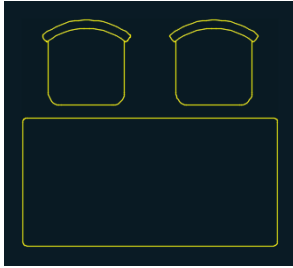

FIGURE 7.11 Copying a block reference
- 7. Click the Copy tool in the Modify panel, type `L` (for Last), and press Enter twice. Click an arbitrary point on the drawing canvas, type `@2'6<0` (or `@80<0` for metric), and press Enter to copy a chair to the right (see Figure 7.11). Press Esc to end the COPY command.